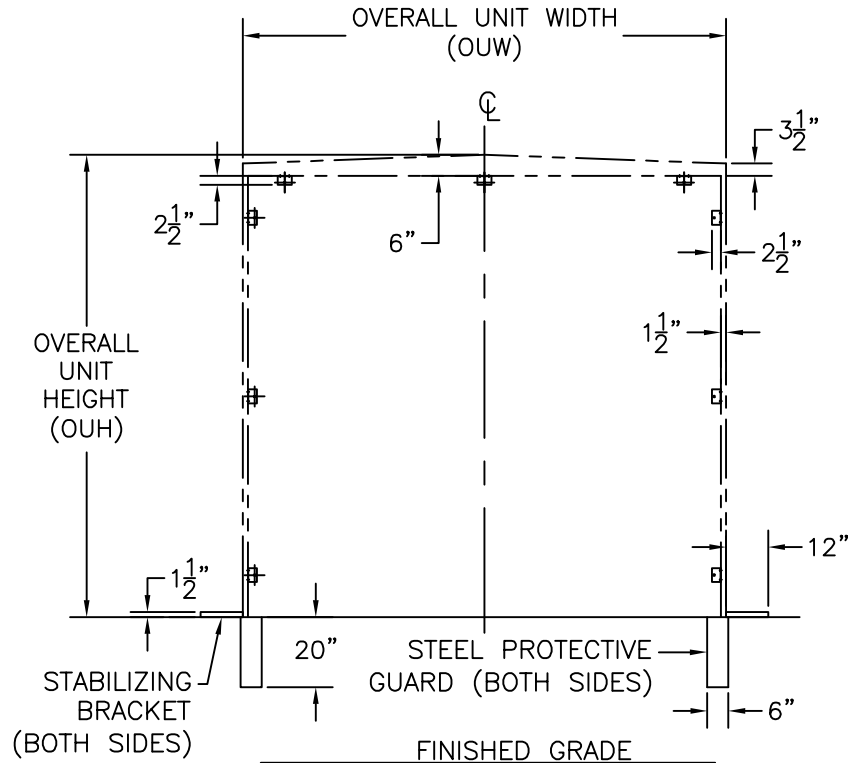

FIG. 1
- Make sure there is enough space to install shelter (**Figure 1** - Standard Unit).